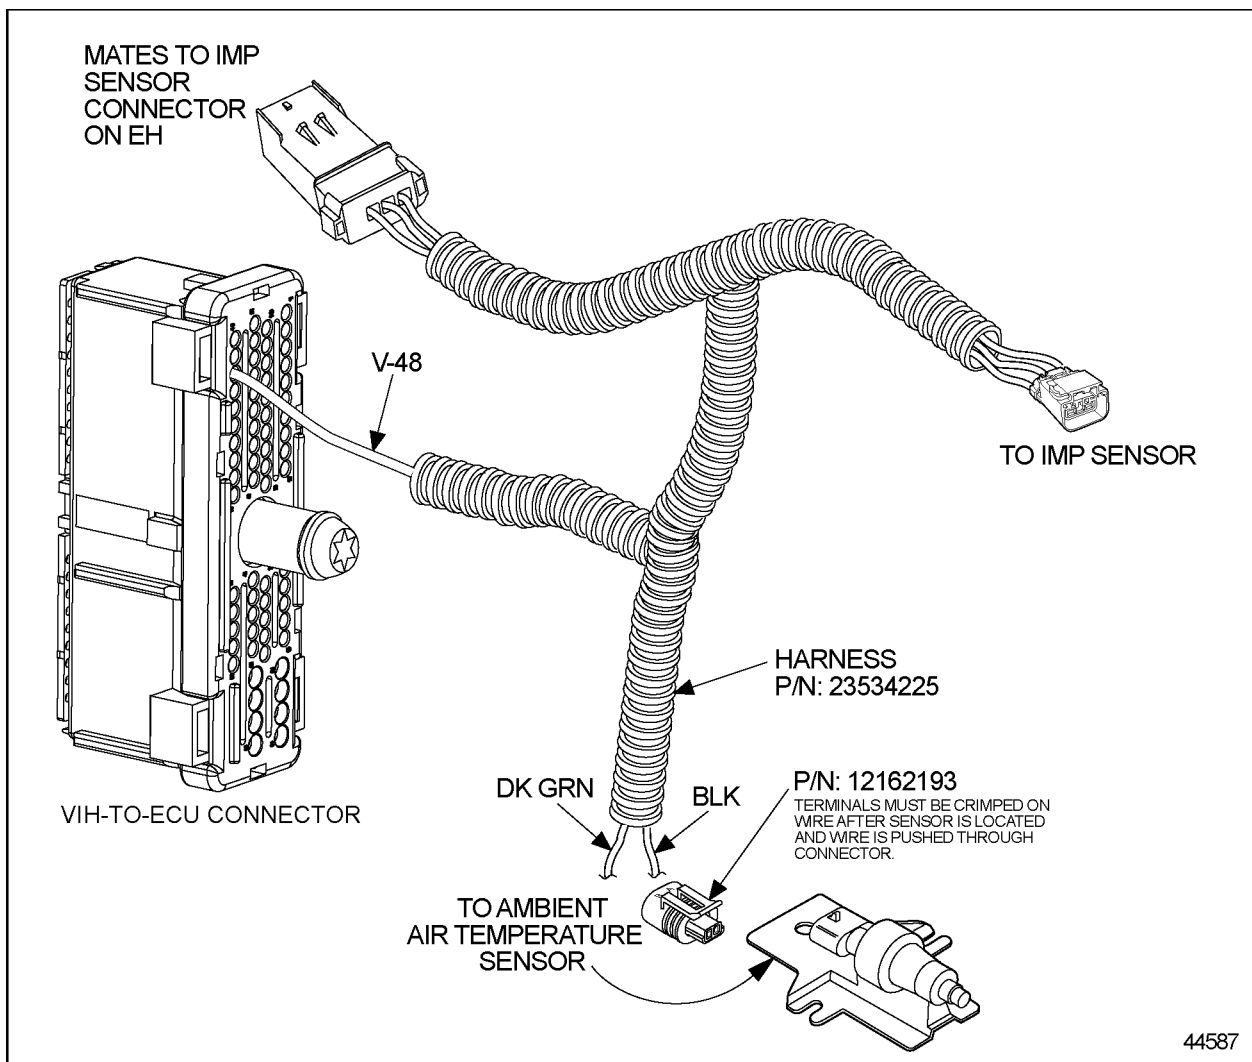

Figure 3-69 Ambient Air Temperature Sensor Harness
5. Insert lead into the connector cavity V-48 and reinstall the 68-pin connector. See Figure 3-69.